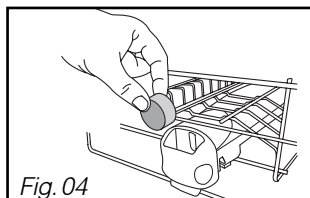
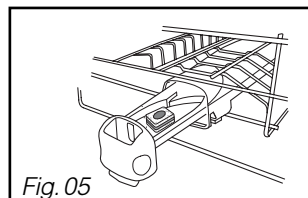

Fig. 04
Fig. 05
Non-multipurpose tablets should be placed in the external compartment (Fig 04) or, for optimum performance, pull out the dispenser drawer and lay the tablet inside (Fig 05).
- Place the tablet in the external compartment (Fig 04 on previous page) or, for optimum results, pull out the distributor's drawer and lay the tablet inside (Fig 05 on previous page).